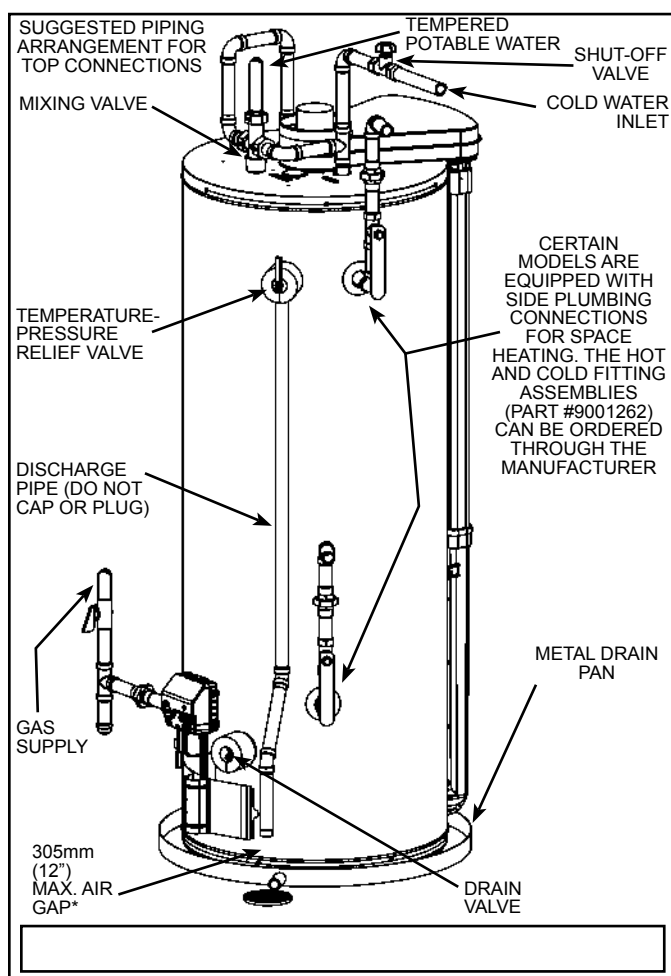

Figure 8
Models equipped with Combo Heating capabilities are shipped with the two side plumbing taps **OPEN** (items 5 and 8 in Figure 1 and see also Figure 8). If the heater is to be operated without using the side taps, these openings **must be closed** with the two pipe plugs supplied with the heaters.
Some people are more likely to be permanently injured by hot water than others. These include the elderly, children, the infirm and the physically/mentally disabled. Table 1 (published by U.S. Government Memorandum, 1978) shows the approximate time-to-burn relationship for normal adult skin. If anyone using hot water provided by the water heater being installed fits into one of these groups or if there is a local code or state law requiring a certain water temperature at the point of use, then special precautions must be taken (see Figure 8).
In addition to using lowest possible temperature setting that satisfies demand of application, a mixing valve should be installed at the water heater (see Figure 8) or at hot water taps to further reduce system water temperature. Mixing valves are available at plumbing supply stores. Consult a Qualified Installer or Service Agency. Follow mixing valve manufacturer's instructions for installation of the valves. Before changing the factory setting on the thermostat, read the "Operating The Temperature Control System" section in this manual.